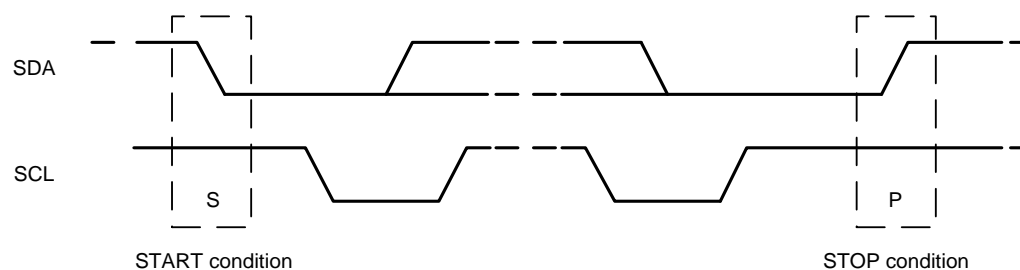

Figure 11. START and STOP Conditions
Communication on the I2C bus starts when the master puts the START condition (S) on the bus, which is defined as a HIGH-to-LOW transition of the SDA line while SCL line is HIGH (see figure below). The bus is considered to be busy until the master puts a STOP condition (P) on the bus, which is defined as a LOW to HIGH transition on the SDA line while SCL is HIGH (see Figure 11).